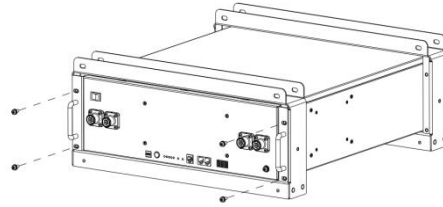

Figure 3-5
1.Place the UE-48LI5120I and brackets as shown in the figure3-5, and insert the UE-48LI5120I into the brackets.Use 4 screws to fix the module on the front bracket.